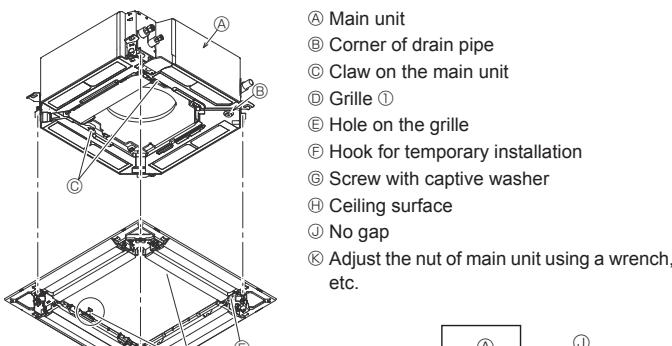

Fig. 9-6
### 9.4.2. Temporary installation of the grille (Fig. 9-6)
- By tightening the pre-installed screws, fix the grille onto the main unit. (Fig. 9-6)
- After tightening the screw, confirm that the two grille hooks (Fig. 9-6) are latched onto the hooks on the main unit.